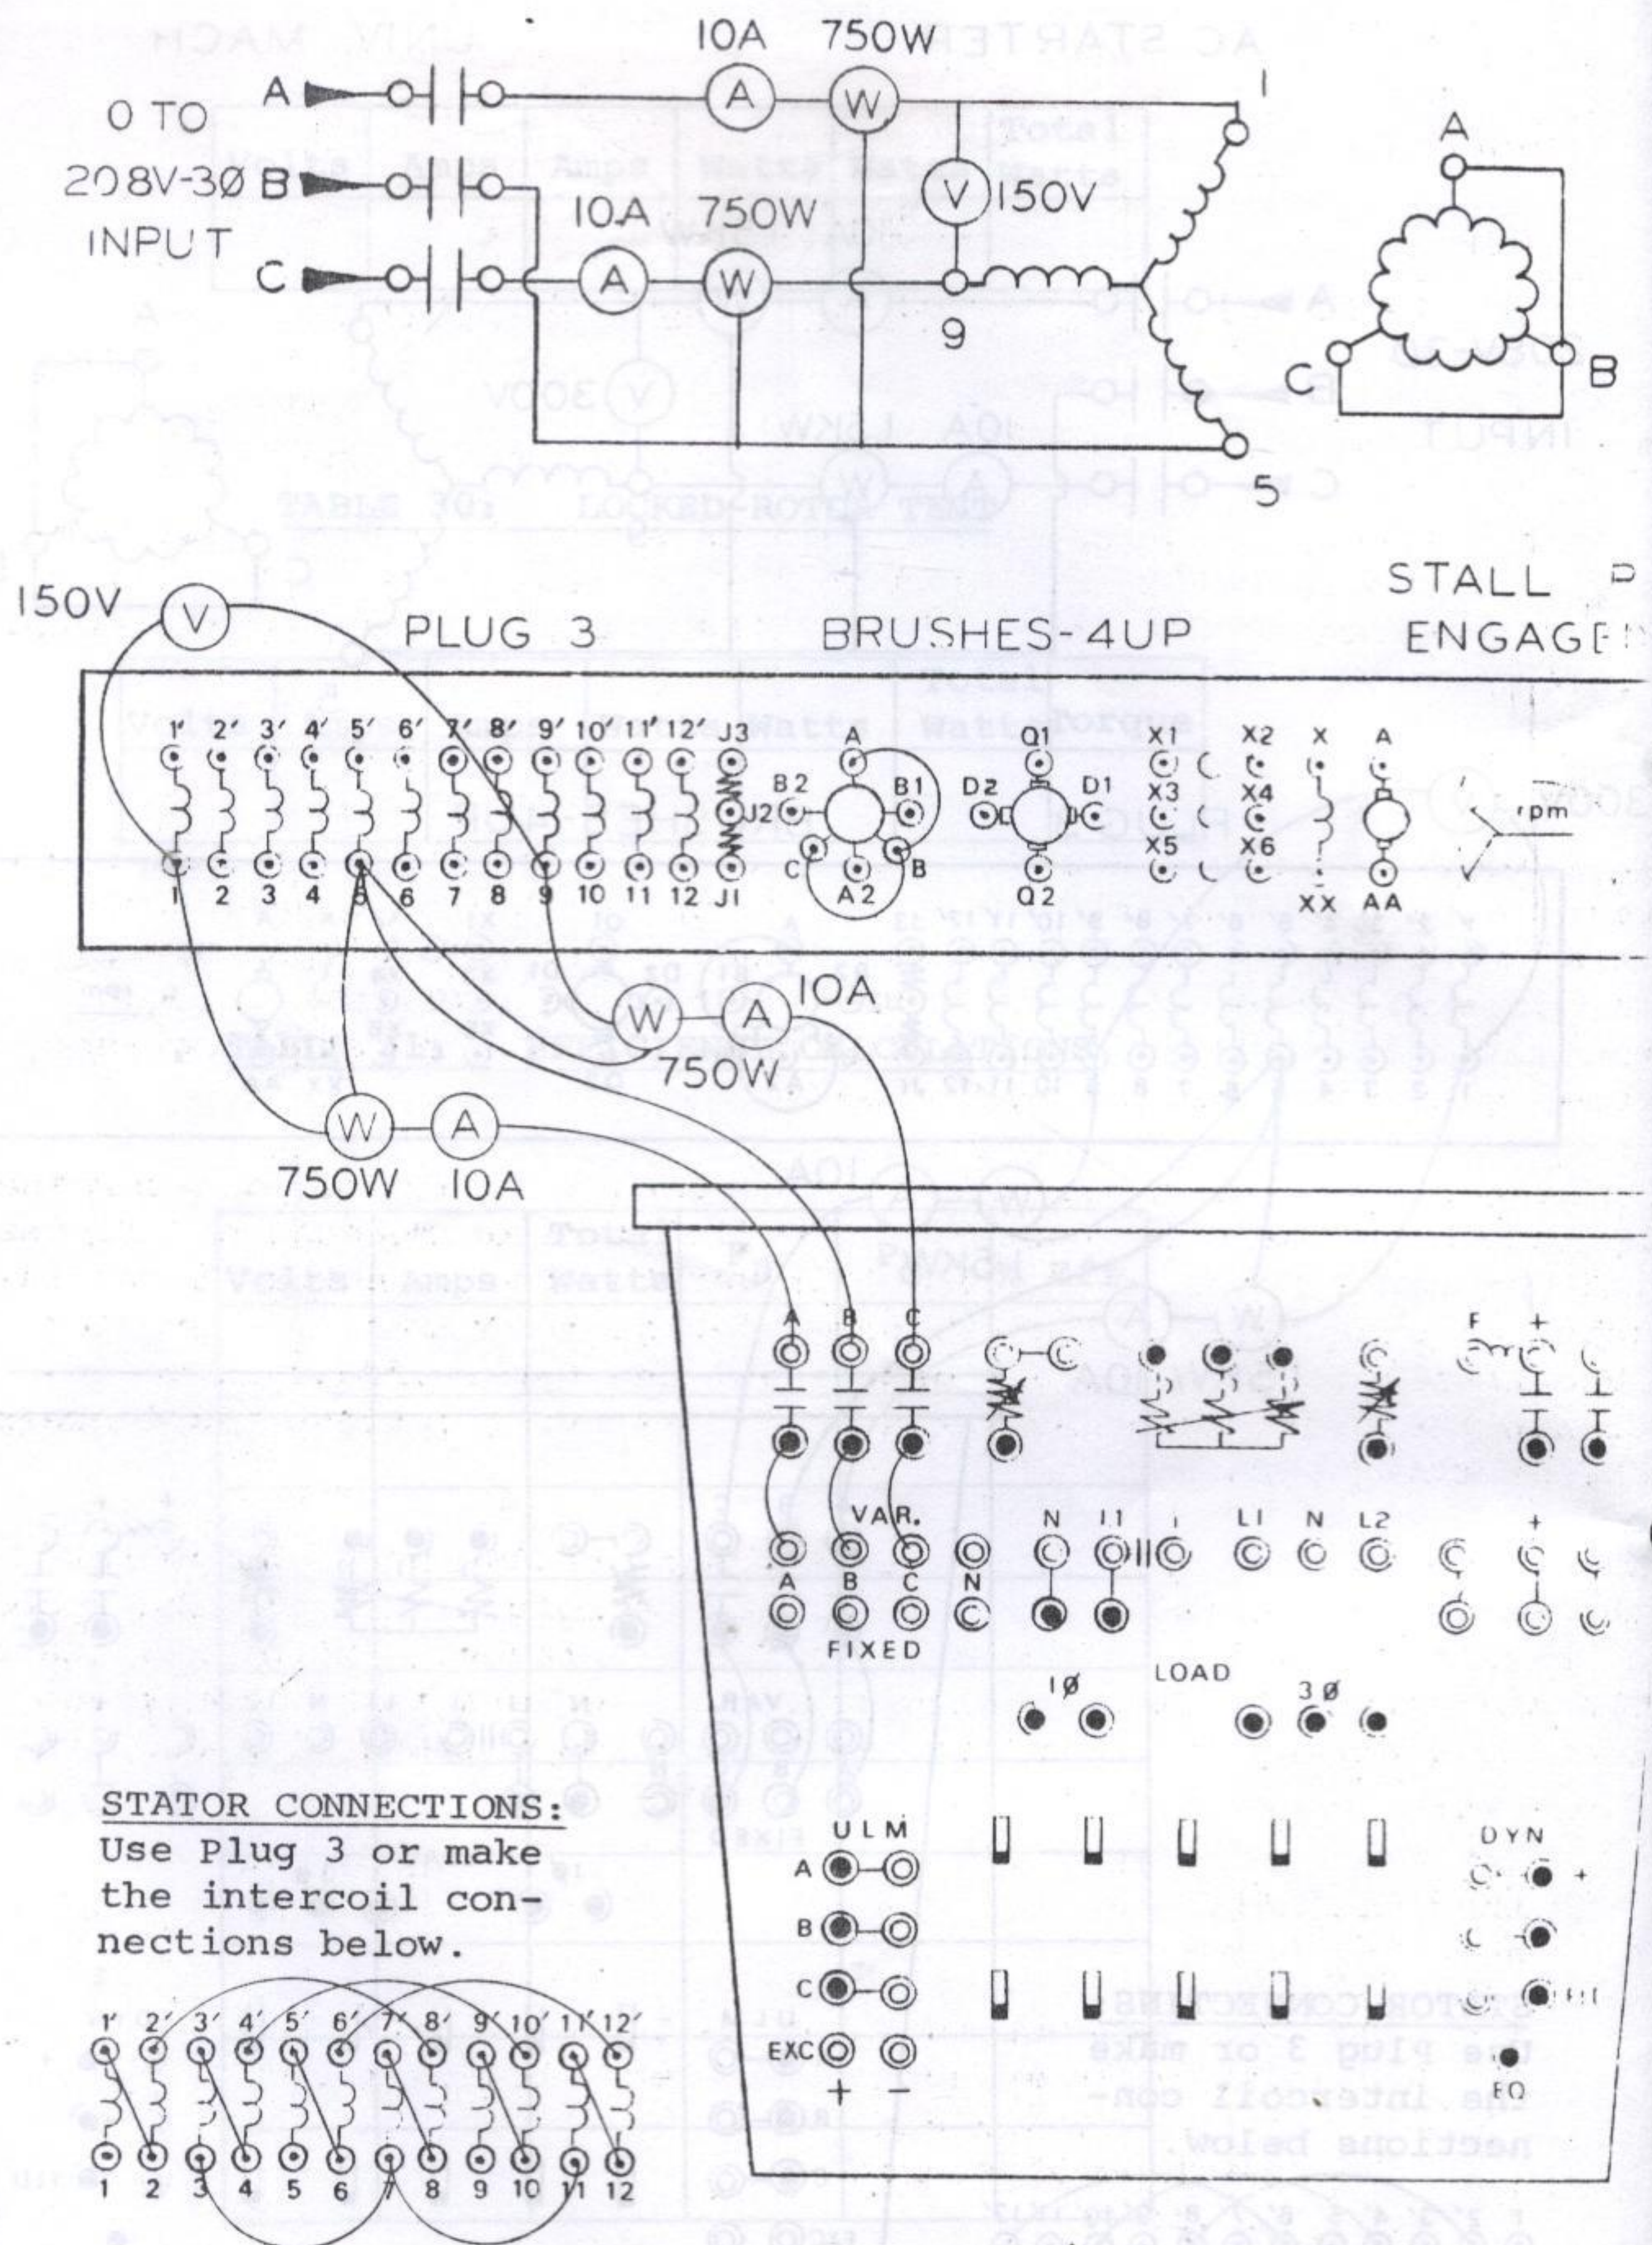

FIGURE 29: SQUIRREL CAGE MOTOR LOCKED-ROTOR TEST
4. Reconnect the ULM as shown in Figure 29 and perform the locked rotor test. The rotor may be locked in place using the stalling pin. This pin is not capable of withstanding the full starting torque. Therefore, the voltage control knob MUST be at zero position before switching on the supply. The current should be adjusted up to 7.0 amps. Record the readings including torque in Table 30.